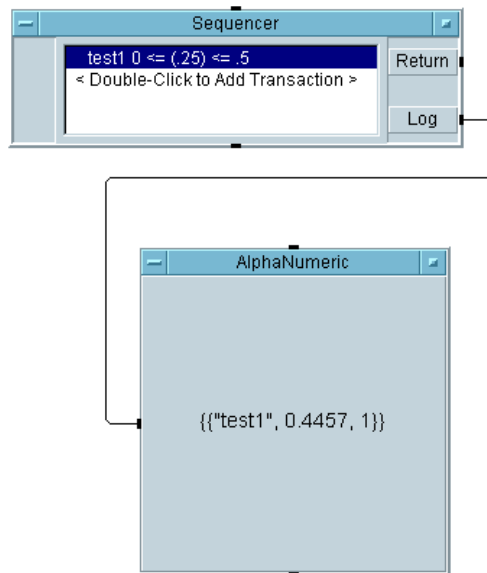

Figure 233 Configuring a Test
- 4 Run the program. It should display the name of the test, the test result, and the pass-fail indicator (**1** for **PASS**, **0** for **FAIL**) in the display, as shown in Figure 233.